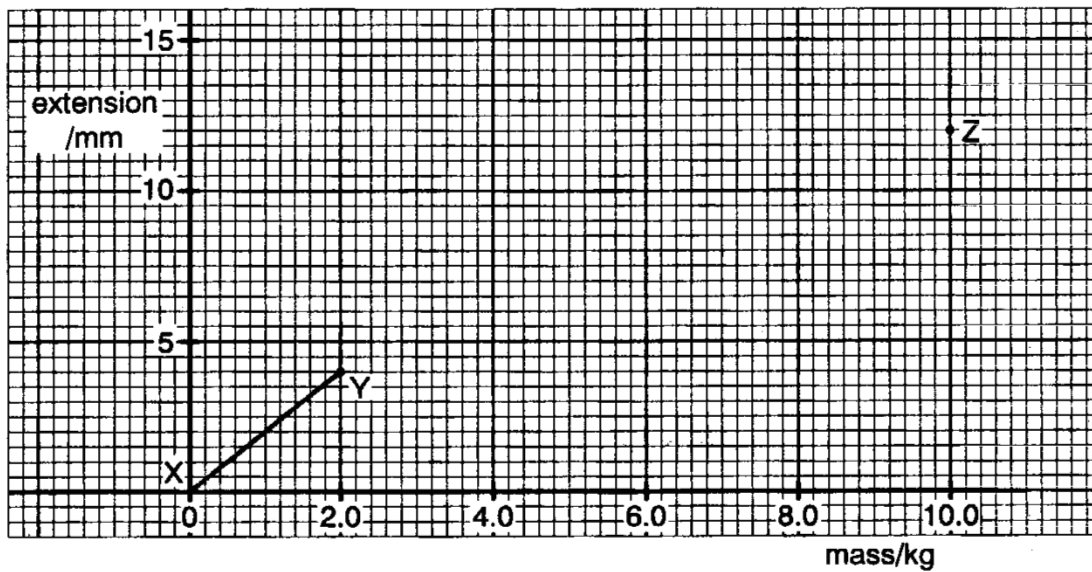

Fig. 10
- (c) The 0.5 kg mass is increased by steps of 0.5 kg up to 10 kg. The corresponding extensions of the steel wire are measured. When the mass on the wire is 10 kg, the wire snaps. Fig. 10 shows part of the graph of extension against load for the wire.
- (i) On Fig. 10, sketch a possible graph line between Y and Z.